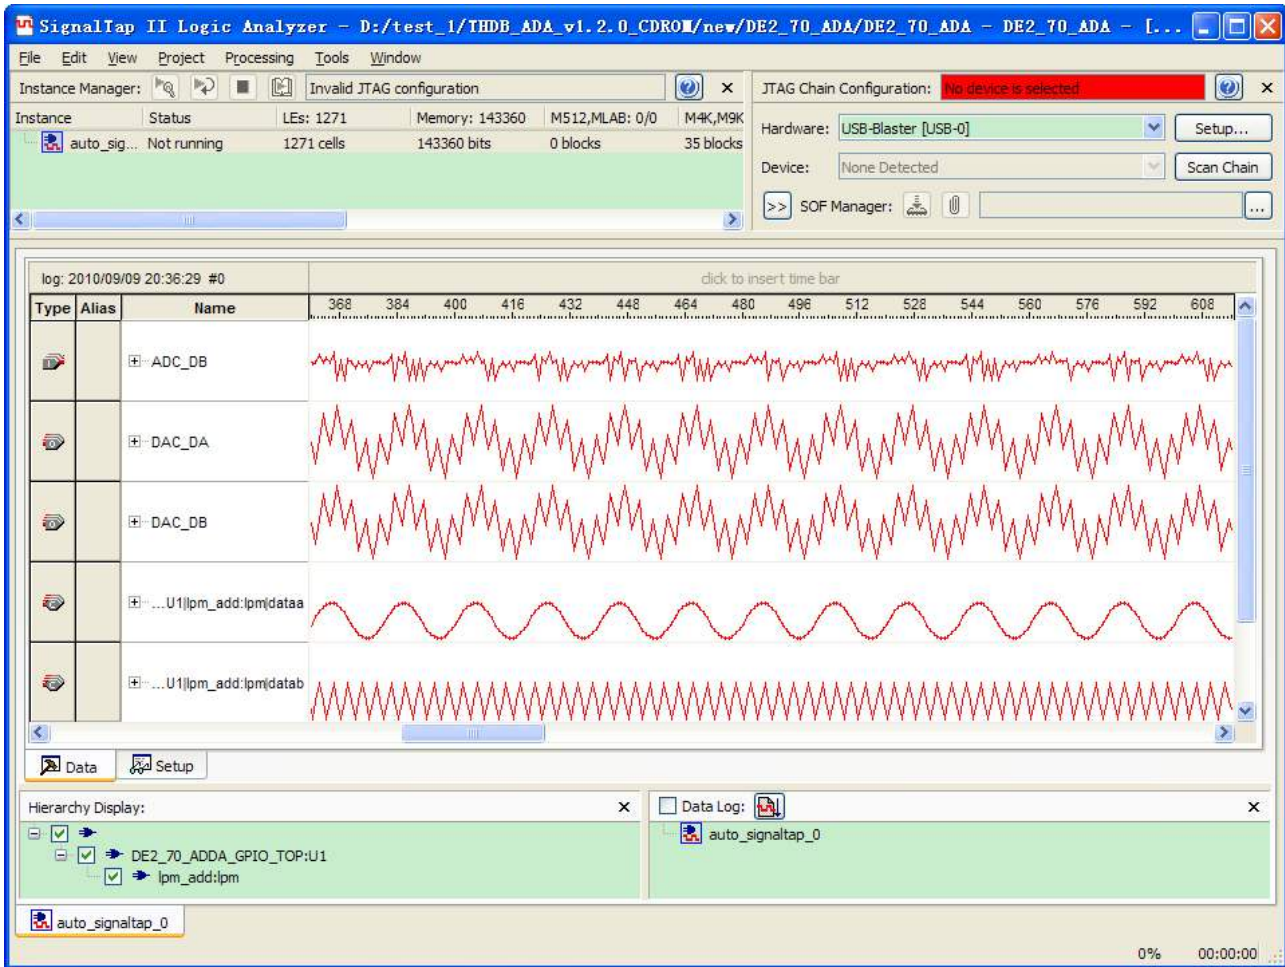

Figure 4-4 Connect ADA-GPIO with DE2-70
6. Open stp1.stp from <path>\Demonstrations\DE2\_70\_ADA, as shown in Figure 4-4.